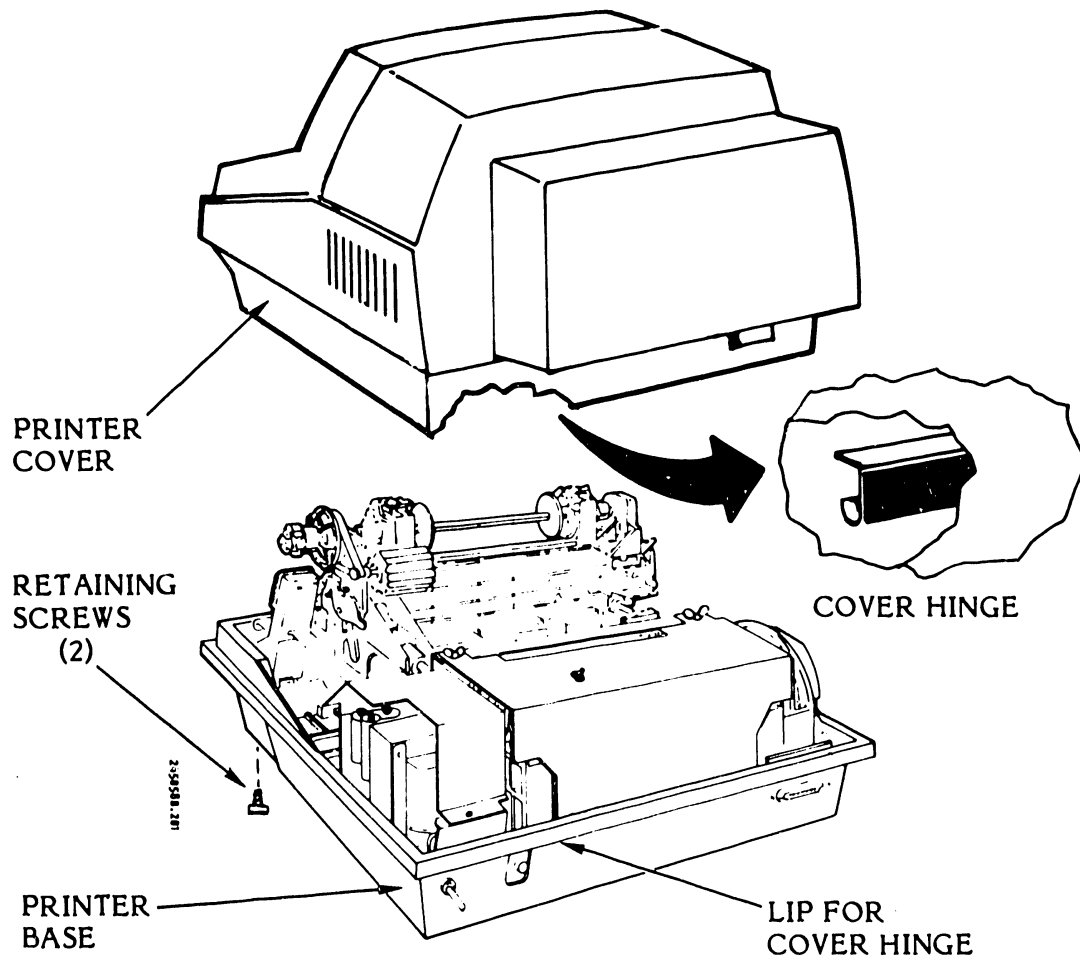

Figure 3-1. Printer Cover Removal/Installation
3.3 PRINTER COVER REMOVAL/INSTALLATION (Figure 3-1)
- a. Use an 8 mm nut driver to remove the two printer cover retaining screws (figure 3-1).